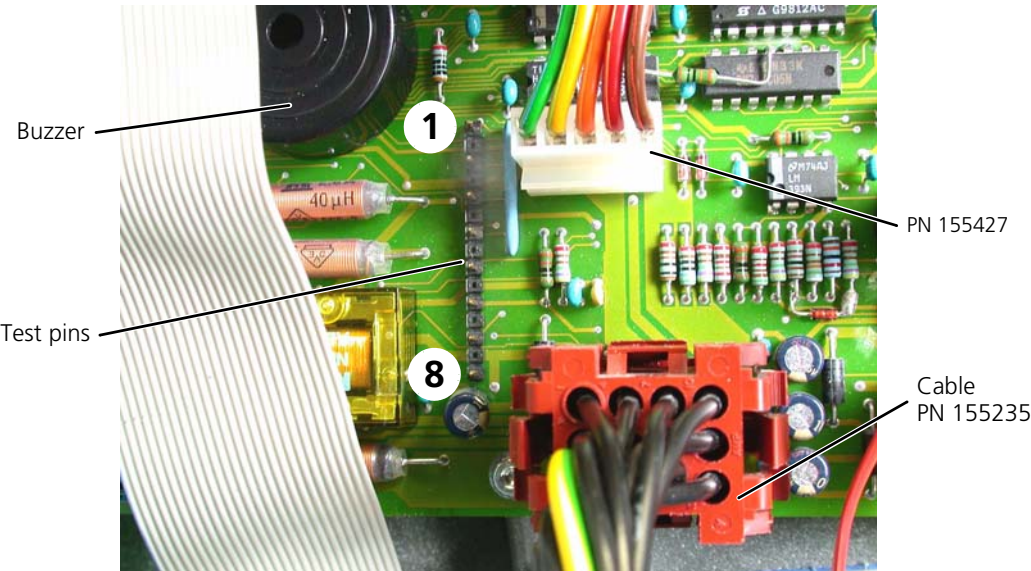

Figure 7-7. The test pins on connector board 155256/xx
- 1. Locate test pins 1–8 at the center of the connector board (Figure 7-7). Pin 1 is at the top, and Pin 8 is at the bottom. The numbers are not marked.